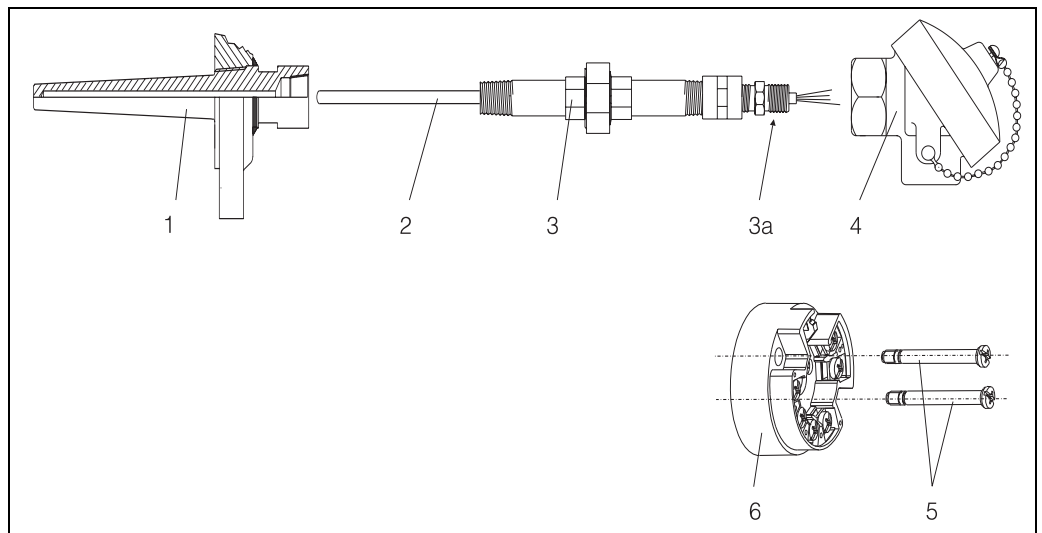

Fig. 1: Installing the head transmitter - Head transmitter assembly
**Industrial thermocouple or RTD assembly with head transmitter (see Fig. 1)**